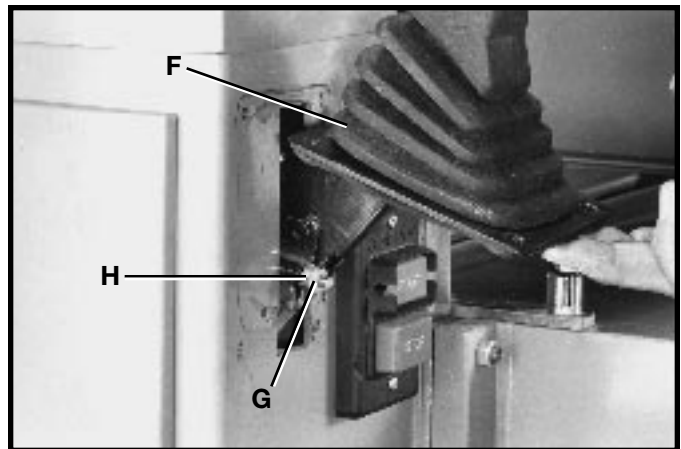

Fig. 32
3. Raise boot (F) Fig. 32, to gain access to adjustment hardware.
4. Loosen jam nut (G) Fig. 32, and tighten or loosen adjustment hex nut (H) as necessary to adjust feed roll belt tension.
5. Tighten jam nut (G) Fig. 32, against hex nut (H) after adjustment is made.